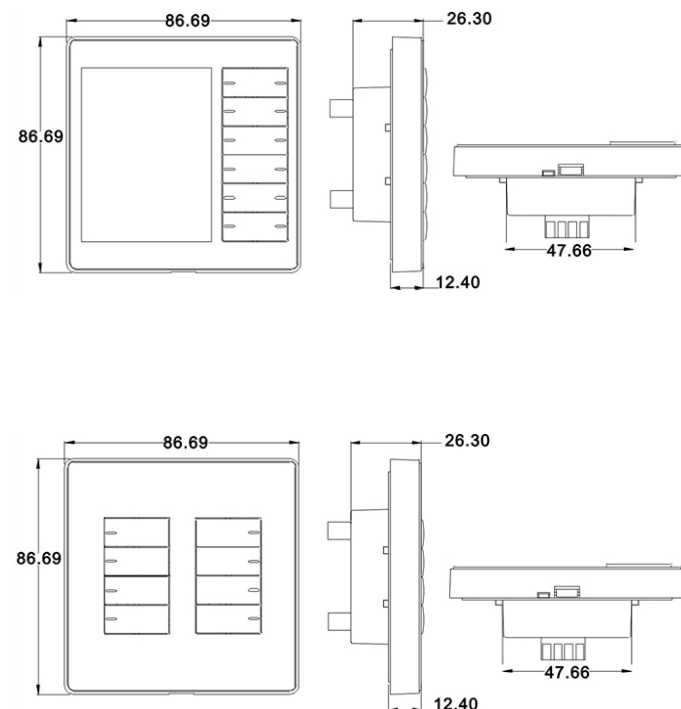

Figure1.3.8: Smart Home Keypads
- Smart home keypads, shown in Figure1.3.8, are programmable keypads that consist of 4 to 8 buttons or an LCD with 12 buttons where each button can be used for a single or multiple actions [scenes].